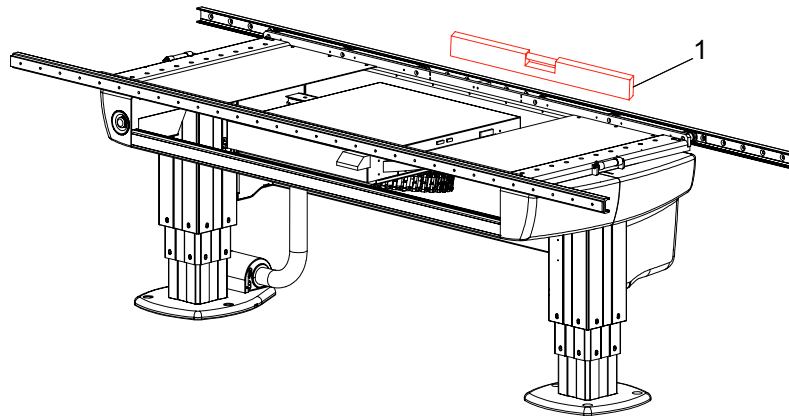

Fig. 4-112 Level table columns
4. Place a spirit level on the table top and check if the table top is horizontal ( $\pm 1$  mm), see **Fig. 4-112**. Shim each column if necessary.